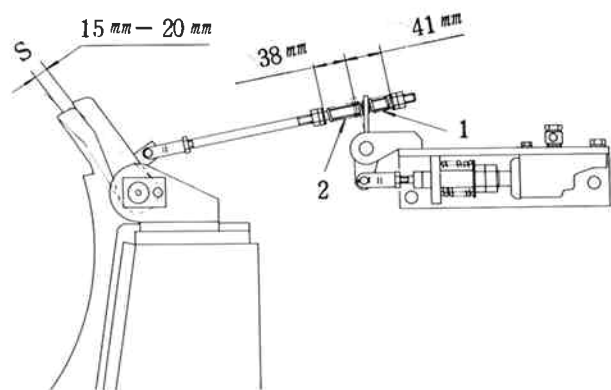

Fig. 5 Boom Hoist Pawl Adjustment
- 1) Grease pin (4) and attach pawl (2) to the bracket with pin (4).
- 2) Grease the threads of capscrew (12) with Loctite #242 and attach pin (4) to the bracket with an (oil lubricated) 0.83~1.01 kgf-m tightening torque.
- 3) Attach yoke (6) to pawl (2), joining them with pin (5), washer (18) and cotter pin (16). Please grease pin (5) during this operation.
Adjustment of the boom hoist drum lock pawl should be carried out using the following procedure. (See Fig. 5) Adjust spring (1) and (2) such that the dimension of S becomes 15mm~20mm when the pawl has been released. At that time, the set length of spring (1) becomes approx. 41mm and the set length of spring (2) becomes approx. 38mm.